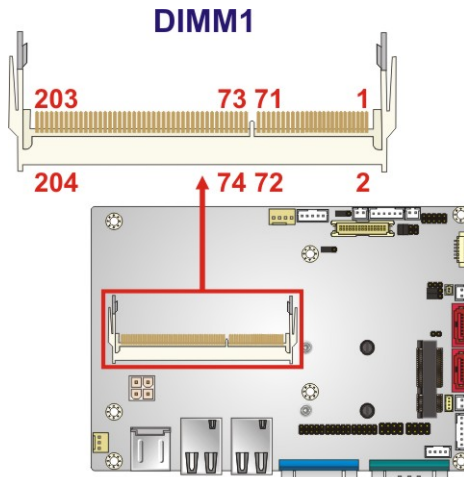

Figure 3-20: SO-DIMM Connector Location
- CN Location:** See **Figure 3-20**